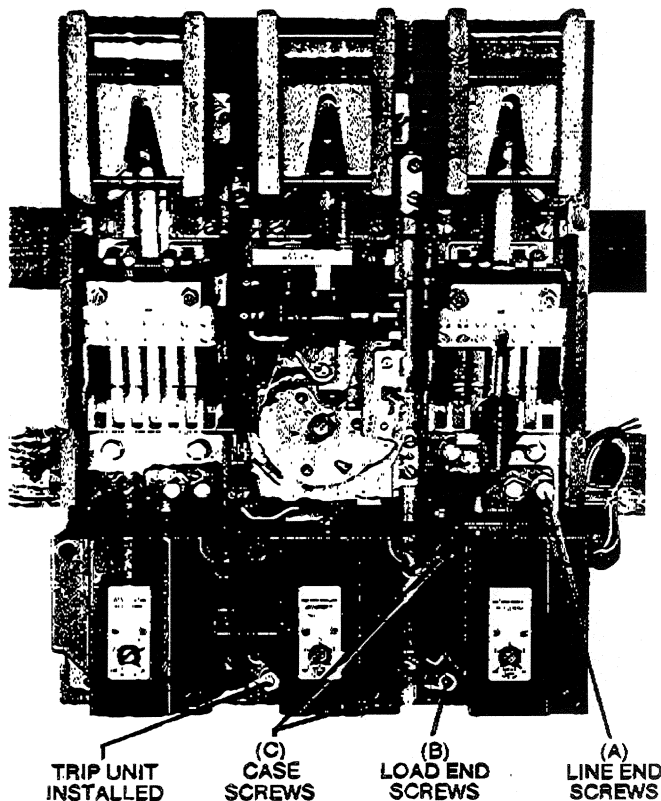

Fig. 3. Breaker, with covers removed, showing trip unit installed.
1. Loosen the hex-head screws (A) and socket-head conductor mounting screws (B), Fig. 3. Loosen and remove the trip unit case mounting screws (C).
3. Secure the trip unit case to the frame with four round-head screws (C), Fig. 3.
4. Insert and start the hex head screws (A), Fig. 3, to connect the line end of the trip unit coils to line contact carriers. Do not tighten at this point.
5. Insert and start the socket head screws (B) to connect the load end of the trip unit coils to the load-end terminals.